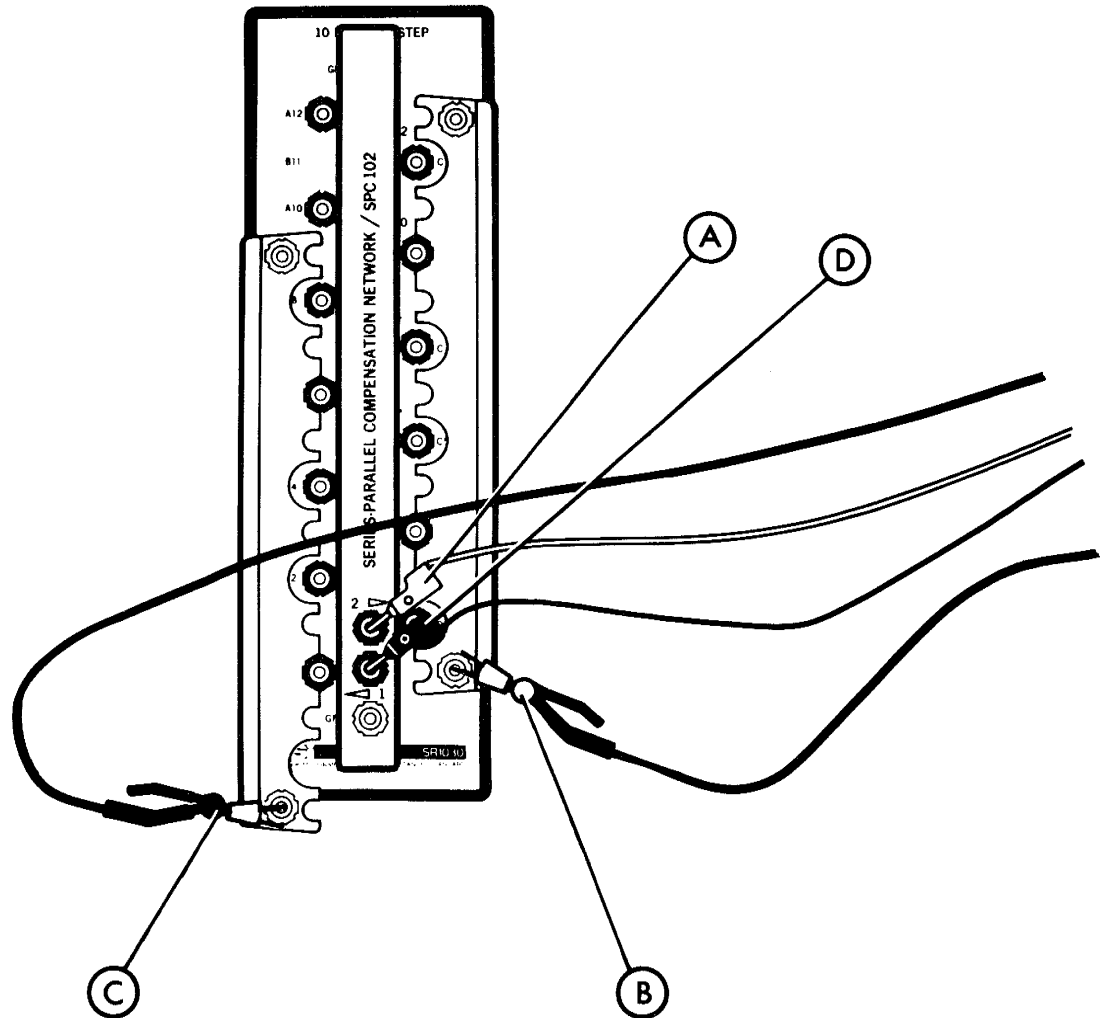

Figure 5-16. Lead Connections to SR1030 Series Parallel Set Up
16. Make the 242D lead connections to the SPC102. Reference Figure 5-16.